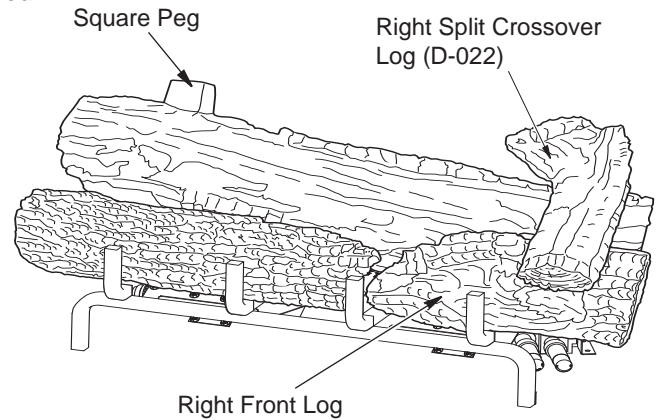

Figure 21 - Installing Right Split Crossover Log
- Find the right split crossover log (D-022). The bottom of the log has a rectangular stand off that fits in the slots on the right side of the front right log and the middle split log. Place this log as shown in **Figure 21**.